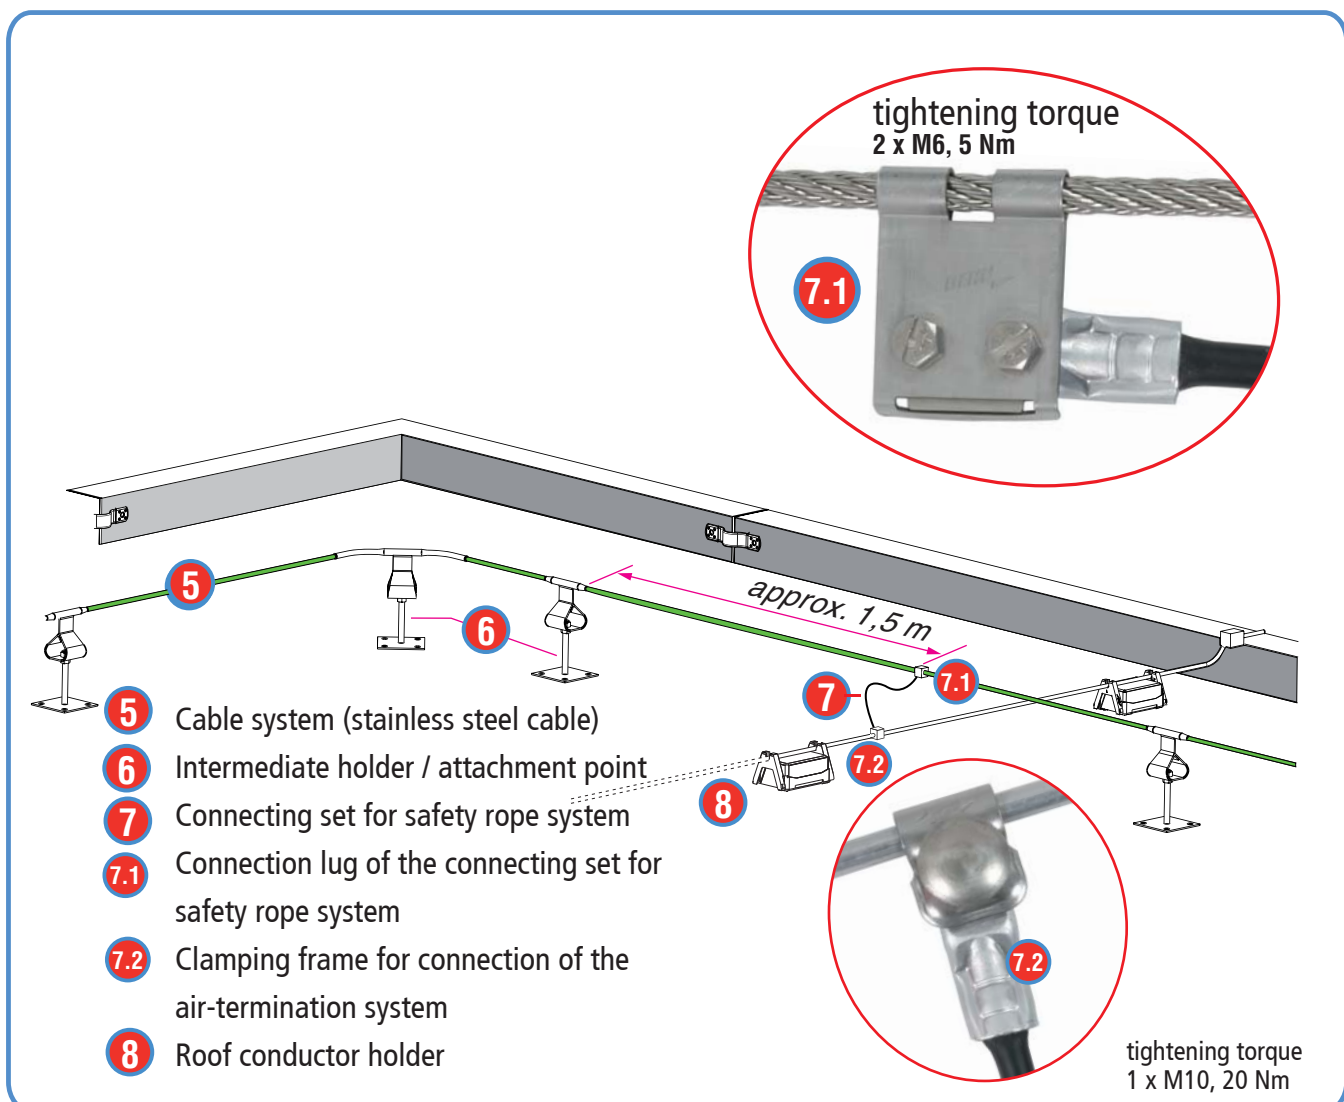

Fig. 5 Installation on flat roof
If a person should fall off the roof, the cable of the safety rope system may be deflected by up to 1.5 m. Therefore, the distance of the connection lug (connection with the air-termination system of the external lightning protection system) in the cable run has to be approx. 1.5 m from the attachment point (see item 7, Fig. 5, page 7). Manufacturers may require a greater distance.
At every crossing point, there has to be a lightning current carrying capable connection of the rope system with the air-termination system, e.g. with the mesh of the external lightning protection (see item 7, Fig. 5).
A subsequent adjustment (vertical positioning) of the connection lug is possible (see item 7.1, Fig. 5). This will not interfere the electrical contacting (lightning current carrying capable connection) (see item 7.1).